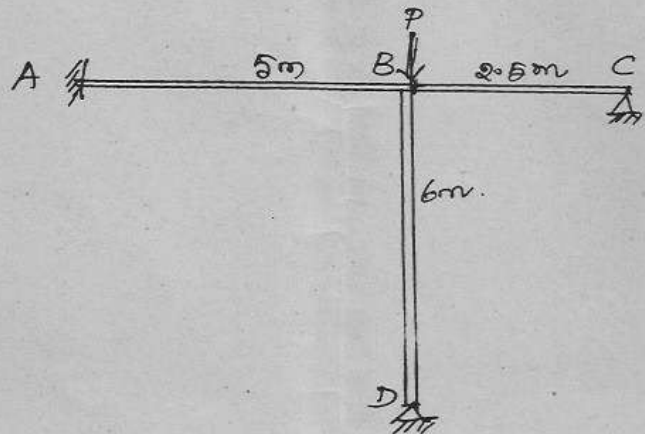

Fig.2
- (b) Determine the critical load of the frame shown in Fig.2. Take I for beams and columns as $0.4 \times 10^{-4} \text{ mm}^4$ and $E = 200 \text{ GPa}$.